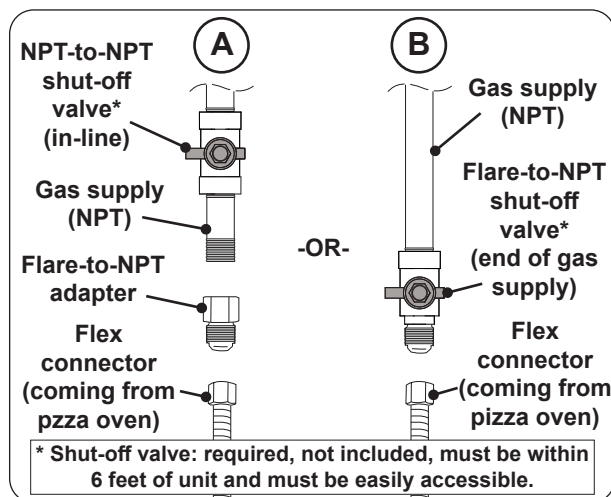

Fig. 28-1 Connecting to a gas line
- Install the supplied flare-to-NPT adapter to the gas supply (NPT) using a pipe joint compound resistant to all gasses (see Fig. 28-1, A). Tighten securely.
- Connect the flex connector to the adapter (see Fig. 28-1, A). Tighten securely.
- Connect the flex connector to the shut-off valve (flare) (see Fig. 28-1, B). Tighten securely.